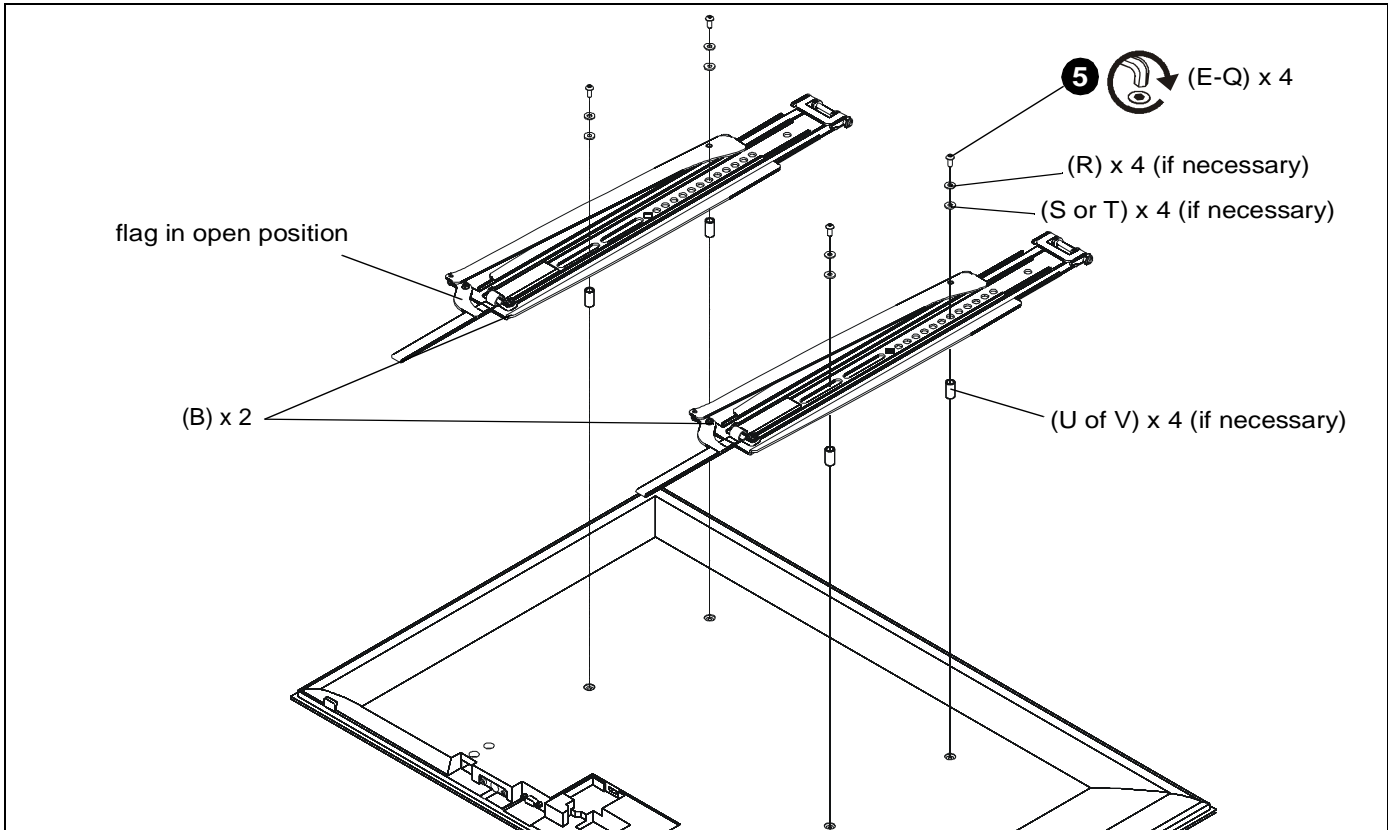

Figure 4
5. Install four button head cap screws (E-Q) through required washers (R) and shoulder washers (S or T), interface brackets (B), spacers (U or V) and into holes on back of display. (See Figure 4)
NOTE: Make sure locking flags are in the open position before attaching display to wall plate. Flags are shown in the open position in Figure 4.